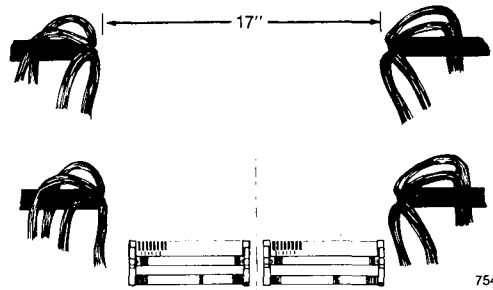

Fig. 11—Straight inline splicing.
3. Identify all binder groups and lay groups back along cable. See Figure 11.